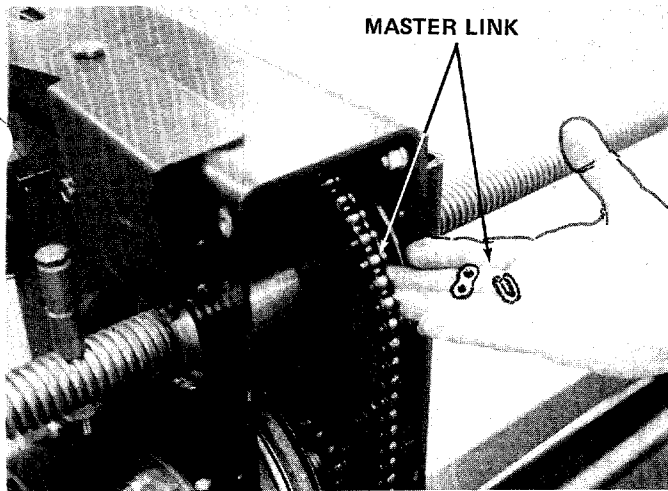

FIGURE 10
7. Hold the engagement lever in the forward position. (spark plug wire must be disconnected). Pull the recoil starter rope to rotate the chain until the master link can be located. Remove the master link and chain. See figure 10.